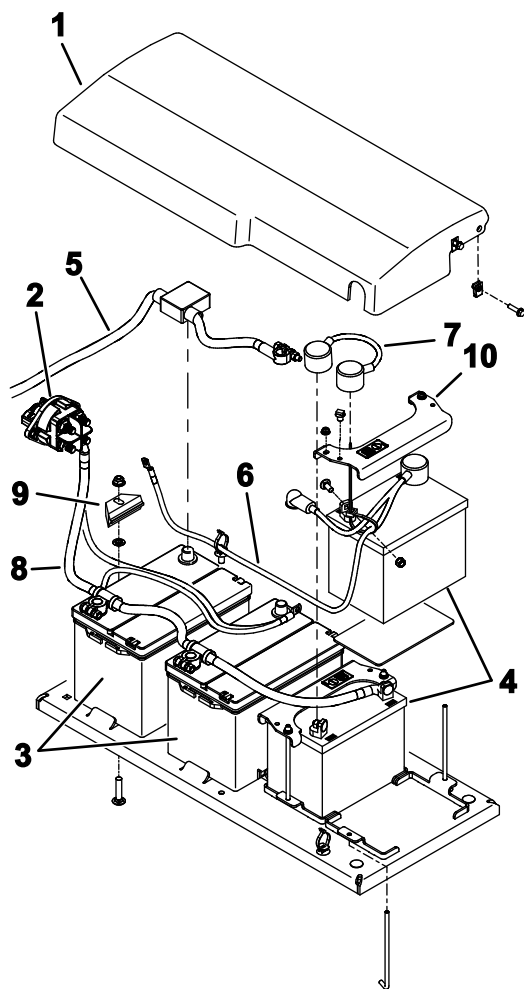

Figure 115
6. Remove the fasteners that secure the battery cover to the machine and remove the cover (Figure 115).
9. Carefully remove the batteries from the machine (Figure 115).
1. Secure the batteries with the hold downs (Figure 115).